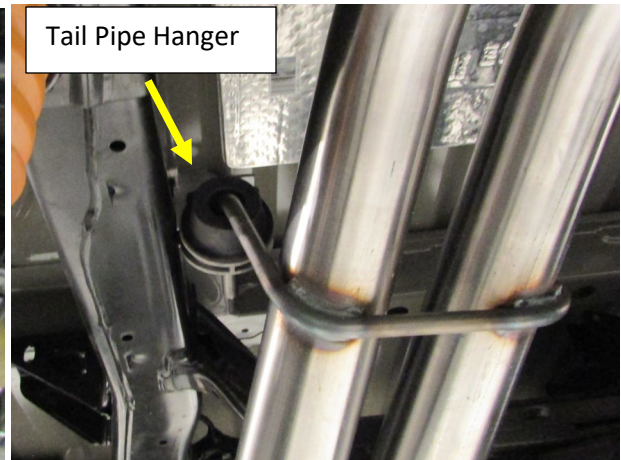

Figure.8
12. Install the tail pipe frame hanger on to the rear hanger rod. Align the hanger on to the frame and install the 10mm bolt. **Fig.8**